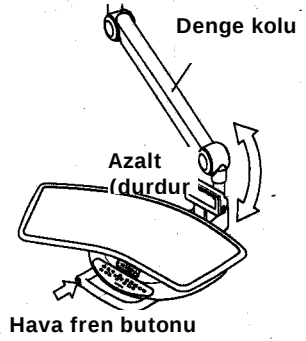

Fig. 3-14 Denge Kolu Hava Freni
- (5) Denge Kolu Hava Freni (Fig. 3-14)